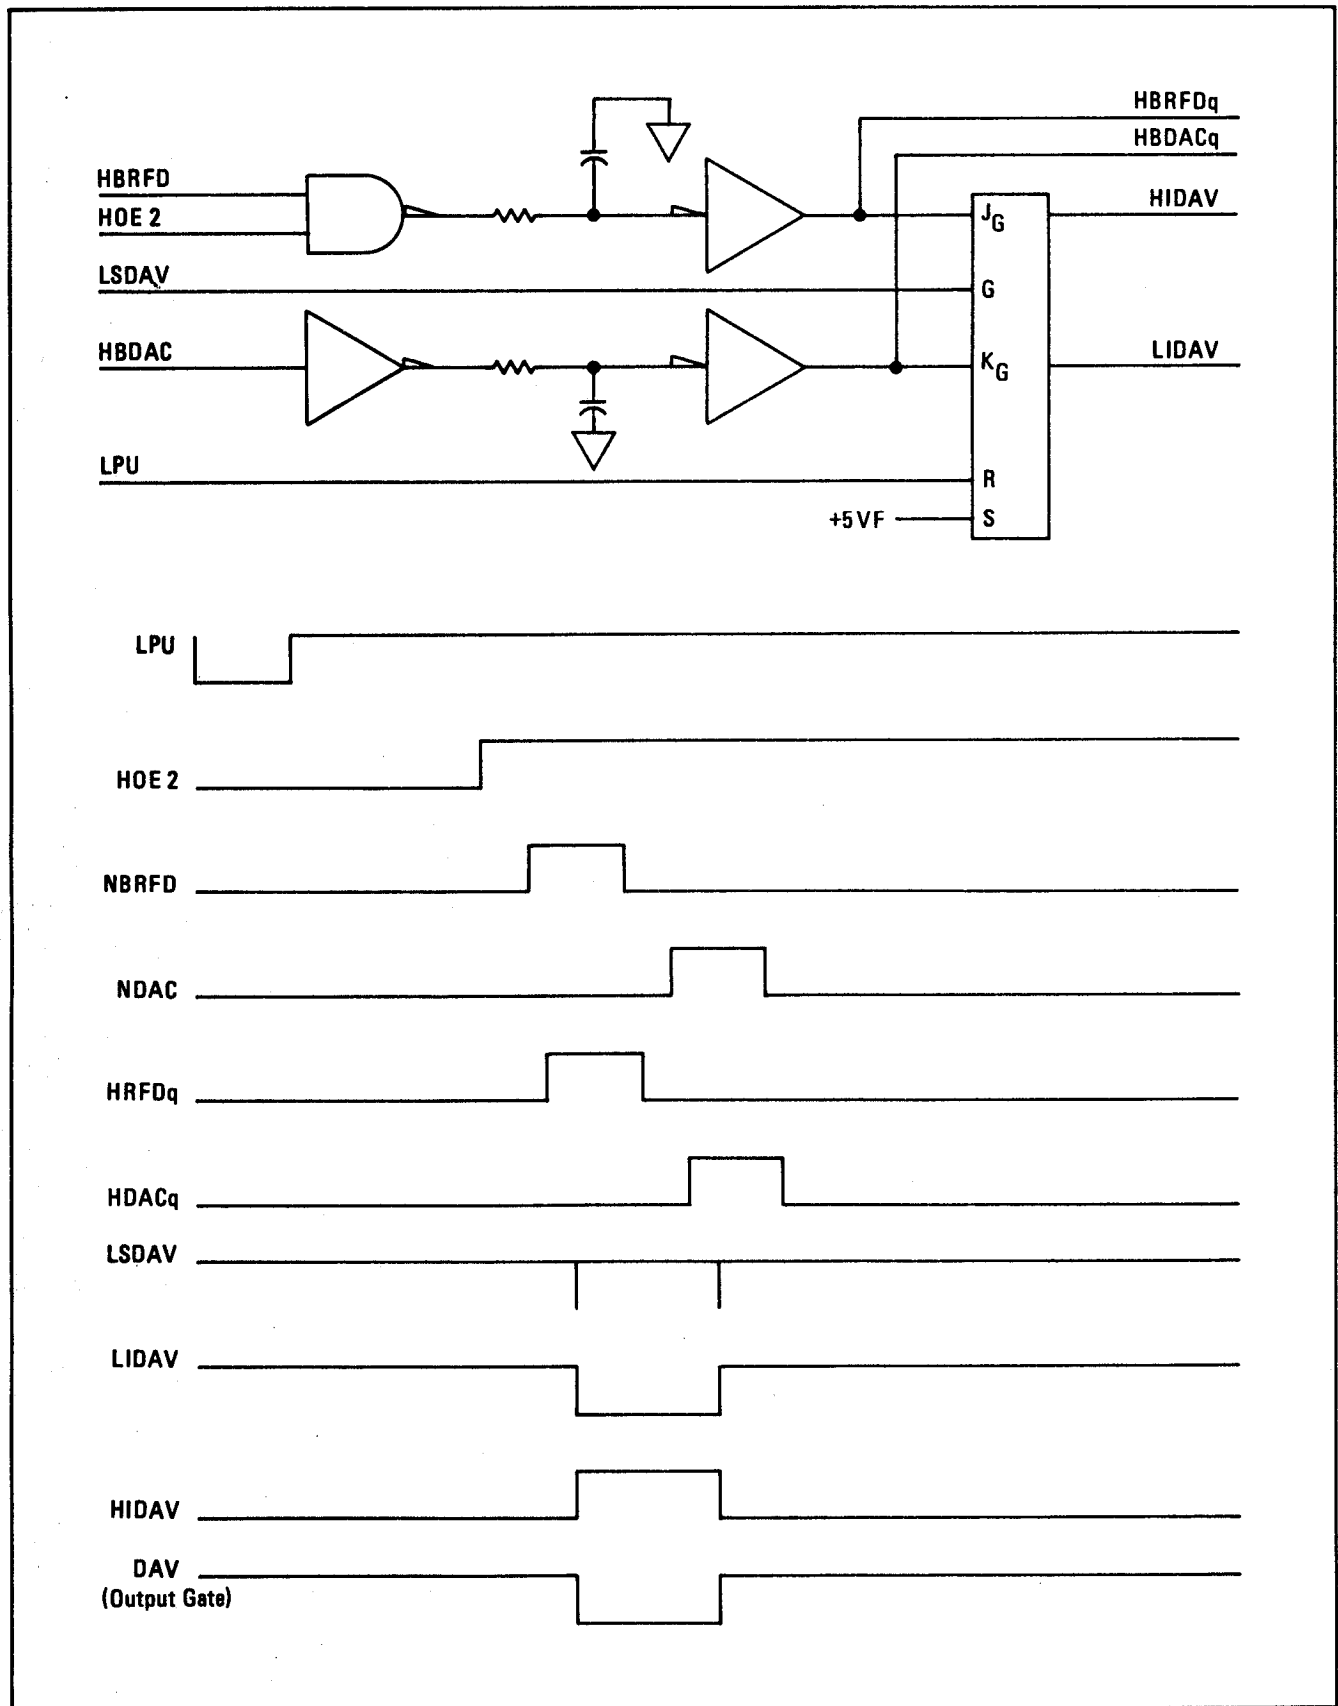

Figure 8-20. Data Valid Status Generator Timing
**b. Data Valid Status Generator.** The Data Valid Status Generator functions in conjunction with the operating program to generate the timing signals necessary to complete a Power Meter initiated data transfer. A timing diagram of Data Valid Status Generator operation is provided in Figure 8-20. As shown in the figure, the JK flip-flop is initially reset by the LPU input and cannot change state until the Power Meter is addressed to Talk and all listeners on the HP-IB indicate that they are ready to accept data. When this occurs, both the